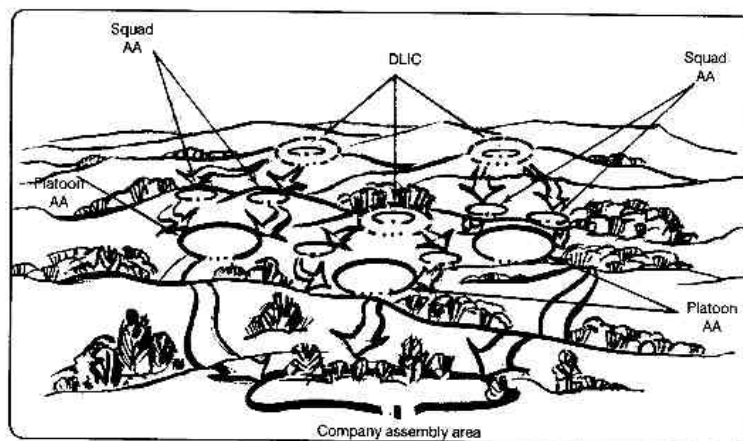

Figure 3-34. Withdrawal not under pressure.
(2) *Withdrawal not under enemy pressure.* A withdrawal not under pressure (Figure 3-34) is conducted with speed, secrecy, and deception. It is best done at night or during other reduced visibility (fog, snow, rain, or smoke). Usually, all elements move to the rear at the same time. The company leaves a security force to cover the withdrawal by deception and maneuver, when required. The security force normally consists of a squad from each platoon and no more than half the company supporting weapons. The commander designates a security force commander, normally the company XO or a platoon leader. The Dragons left behind should be those in the best position to cover the armor avenues of approach.